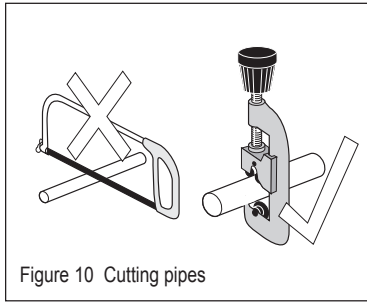

Figure 10 Cutting pipes
- 5.11 Cut all necessary pipework to length with a pipe cutter and not a hacksaw. This will minimise the swarf and prevent damage to the sealing o-ring in the pushfit fitting - see Figure 10.